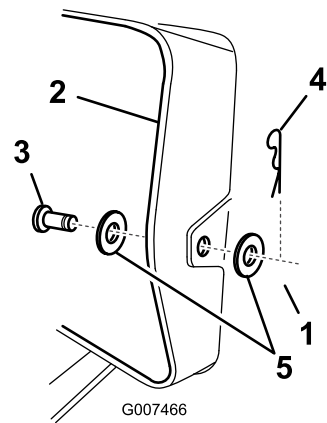

Figure 16
7. Raise the grass collector and remove the hairpin, 2 washers, and clevis pin that secure the discharge tube to the rear plate (Figure 16).
7. Raise the grass collector and remove the hairpin and clevis pin that secure the discharge tube to the rear plate (Figure 16).
13. Raise the grass collector and install the clevis pin and hairpin to secure the discharge tube to the rear plate (Figure 16).